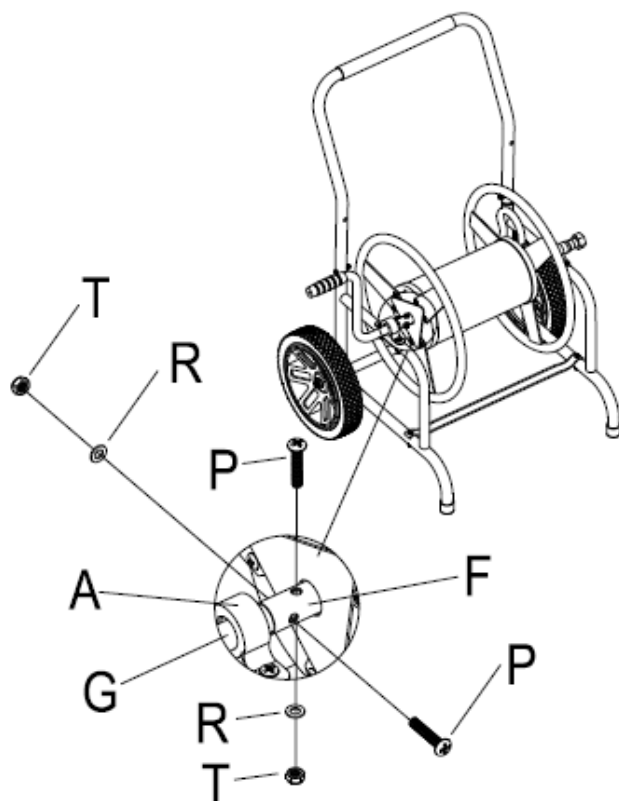

Figure 9
Step 9: Insert the Drum Handle (G) through the Side Frame with Bearing (A) and attach to Drum Shaft (F) using Bolts (P), Washers (R), and Lock Nuts (T). See. Figure 9.